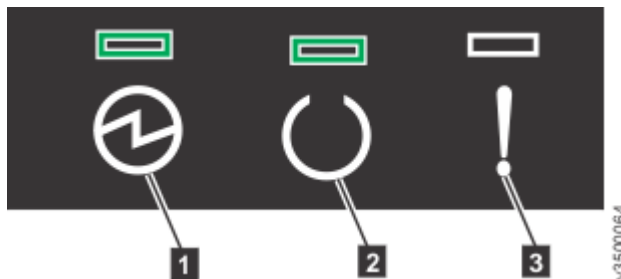

Figure 36. Expansion enclosure LEDs
2. From the rear of the rack, check the LEDs on each expansion enclosure (see Figure 36 on page 70).